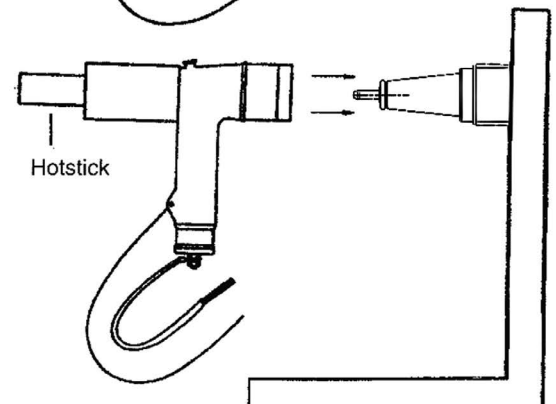

Fig. 4 - De-energized installation
- Begin mating the elbow arrester then thrust the elbow arrester forward with a firm, quick motion to lock the arrester onto the 35kV deadbreak interface. See Fig. 4